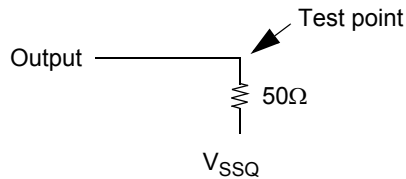

Figure 6. Pull-up slew rate test load
a. Pull-up slew rate is characterized under the test conditions as shown in Figure 6.